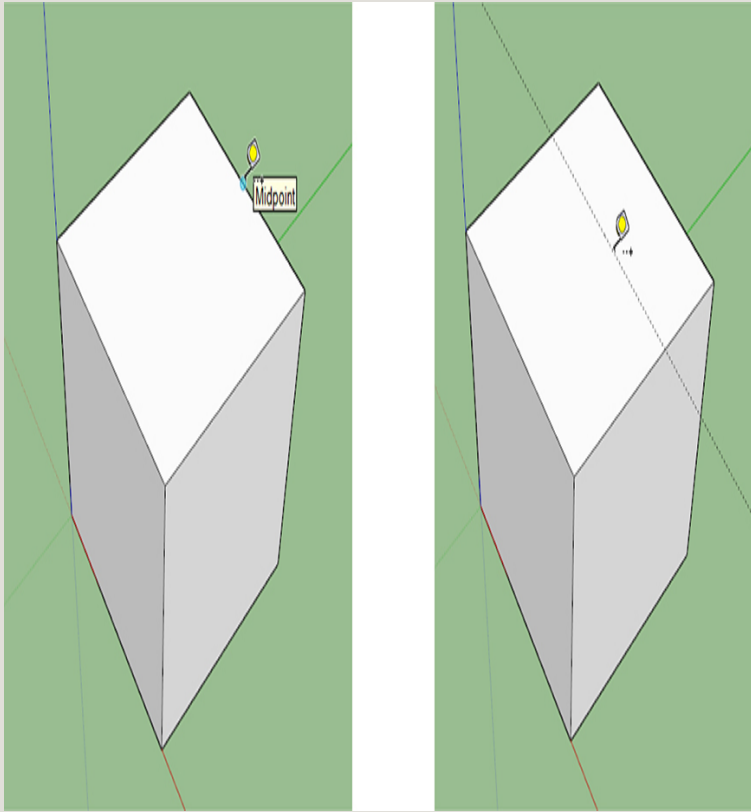

Figure 3-4 Drag an edge with the Tape Measure tool.
3. Drag a horizontal edge with the Tape Measure tool to make a guideline (Figure 3-4).